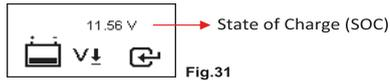

Fig.31
1. Batteries that had been left idle for long periods of time can still be tested with this analyser. To perform the test, just clamp the analyser clips onto the battery terminals and it will display the screen (Fig.31) as shown if its voltage falls below the normal 12.0 volts.